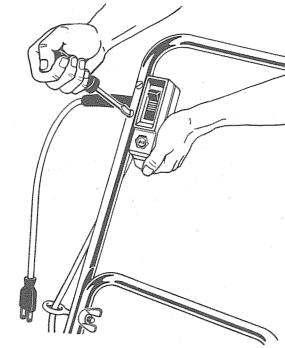
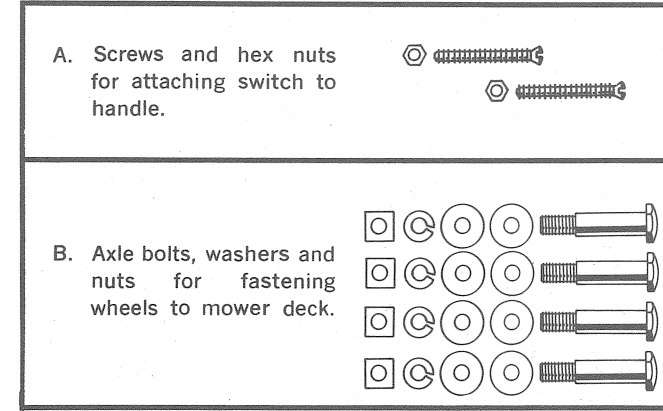

FIGURE 4
FIG. 1
3. Attach switch box to upper handle as shown in Figures 4 and 5. Use two screws and hex nuts (Item "A," Figure 1).
1. Remove cardboard fillers and mower from carton, along with four wheels and plastic hardware bag (contents shown in Figure 1).